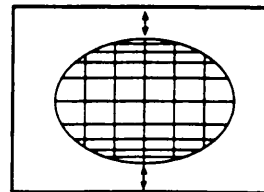

Fig 8.
- d: Adjust the S-correction to obtain a balance between upper, lower and centre as in fig. 8.